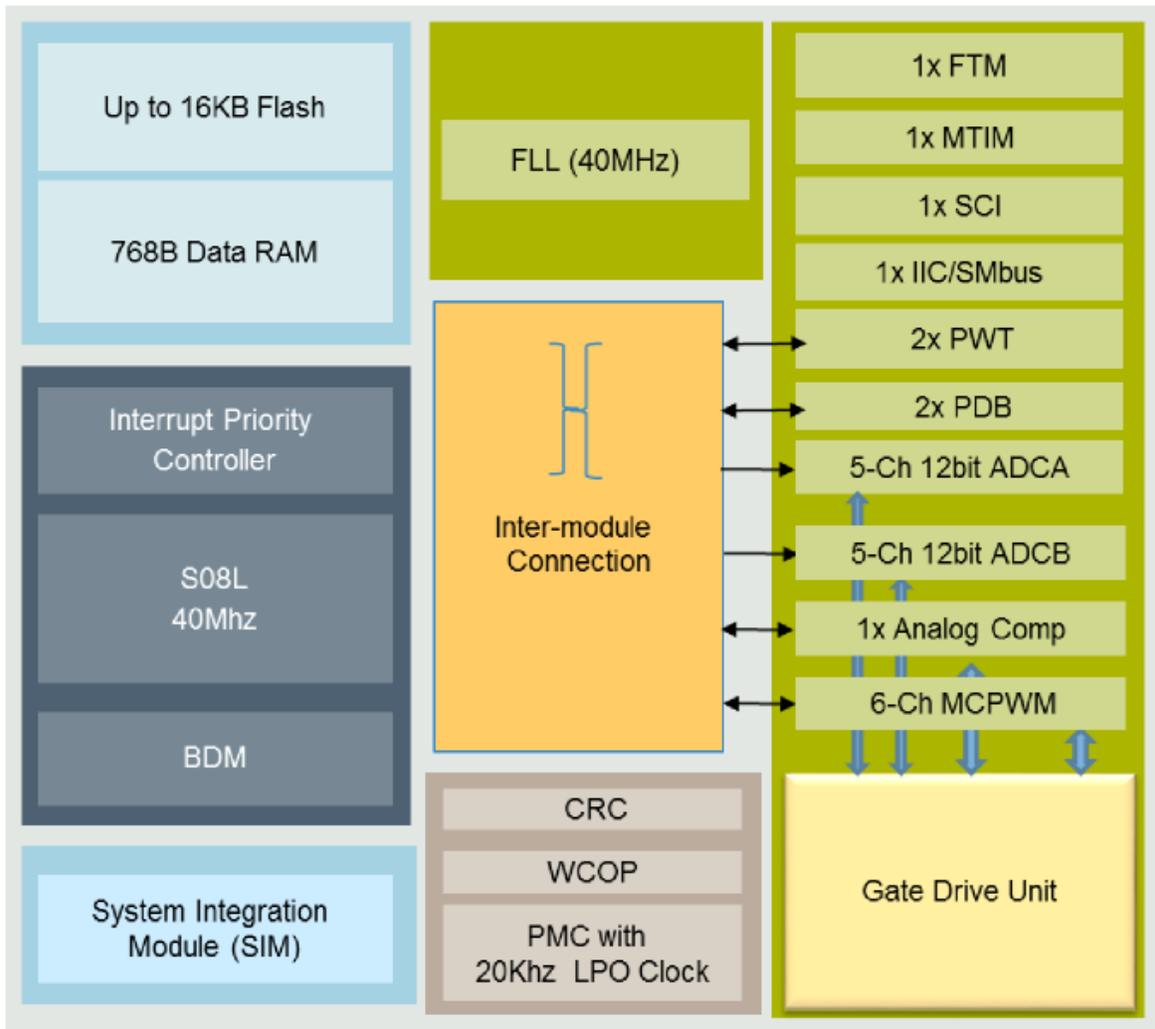

Figure 1. MC9S08SU16 device overview
*Figure 1* shows the overview diagram of the MC9S08SU16 device.